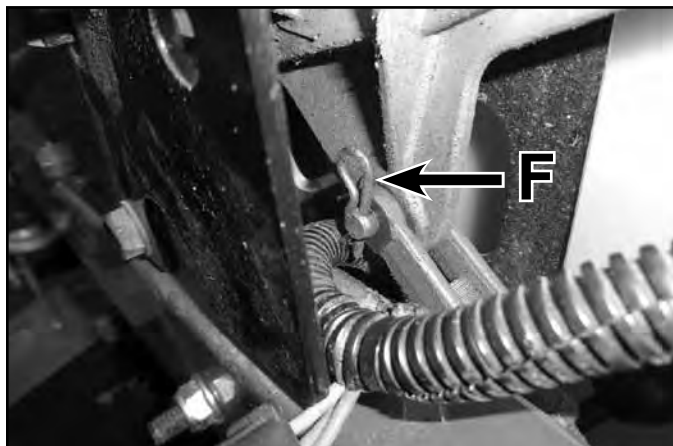

Fig. 027
4. Install the floor pan and torque the (2) fasteners to specification - 7 ft-lbs. (10 Nm).
5. Install the motion control rod and clips and pins (F) (Fig. 027).